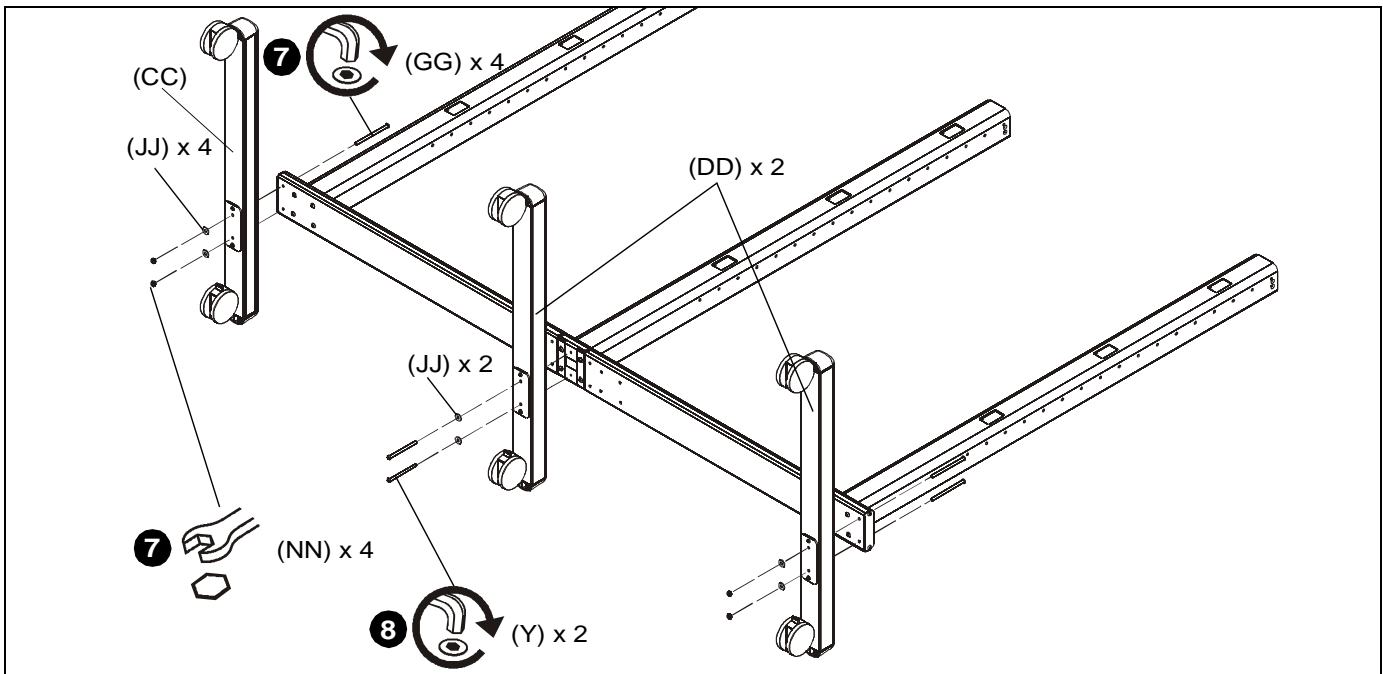

Figure 6
- Use four 5/16-18 x 5" button head cap screws (GG), four 5/16" washers (JJ) and four 5/16-18" lock nuts (NN) to secure left and right legs (CC and DD) to cross bar (J). (See Figure 6)
- Use two 5/16-18 x 4 1/2" button head cap screws (Y) and two 5/16" washers (JJ) to secure second right leg (DD) to extender blocks (U). (See Figure 6)